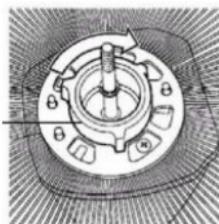

FIG.2
Secure the blades with the blade nut (2) by turning it counterclockwise to tighten (Fig. 2).